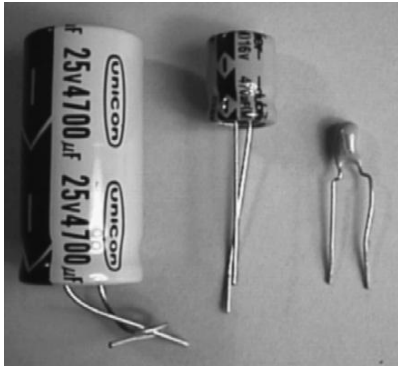

FIGURE 4.8 Types of polarised capacitor: electrolytic (4700 μF and 470 μF), and tantalum (1 μF). Note the leads twisted together on the large-value capacitor.
Electrolytics are made with two different arrangements of the terminal wires. In the **radial** arrangement, illustrated by the electrolytic capacitors in Figure 4.8, the two wires are at the same end of the capacitor. In the **axial** arrangement, the wires are at opposite ends.
- The amount of charge that can be stored in a large electrolytic may give an unpleasant, possibly dangerous, shock. Store such capacitors with their terminal wires twisted together, as in Figure 4.8. This warning also applies to capacitors in circuits. They may hold a possibly lethal charge long after the equipment has been switched off. Always give them time for the charge to leak away.